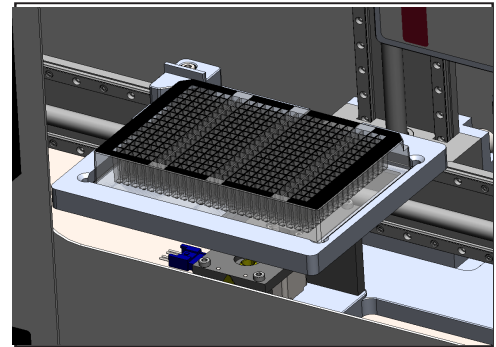

Figure 9. Placing Reagent Plate onto the X-plate
**Step 4.** Insert the Reagent plate onto BioQule™ Plate, as shown in Figure 9.